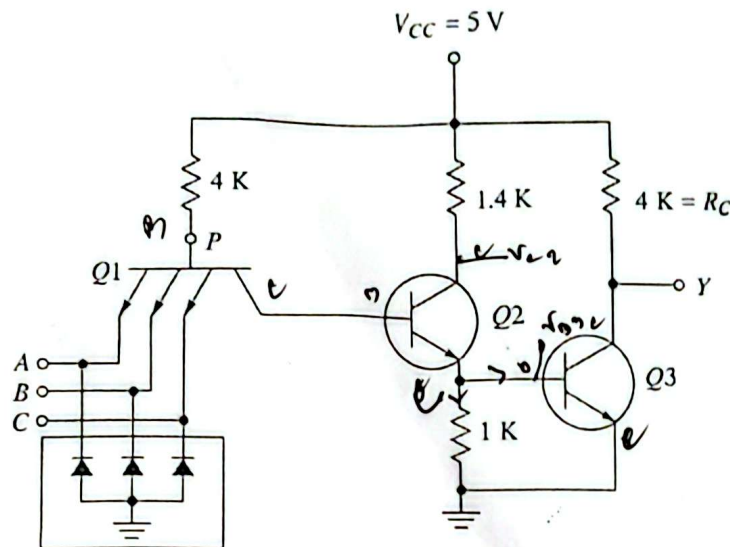

Fig. 3
Using Fig. 3, answer the questions 3(a) to 3(c) –
- a) If all the inputs are HIGH in Fig. 3, then determine the emitter current of Q_3 . You can assume following values for the transistors: $V_{BE}(\text{sat}) = 0.8 \text{ V}$, $V_{CE}(\text{sat}) = 0.2 \text{ V}$, $V_{BC}(\text{on}) = 0.7 \text{ V}$. 7
- b) Explain the purpose of the three diodes connected to inputs A, B, and C in the circuit of Fig. 3. 3
- c) The circuit shown in Fig. 3 suffers from delays in switching speed due to load capacitance at the output node Y. 15
- i) Define load capacitance in logic circuits and explain how it affects the switching speed in the circuit of Fig. 3.
- ii) Illustrate an improved version of the circuit in Fig. 3 that minimizes the effect of load capacitance.